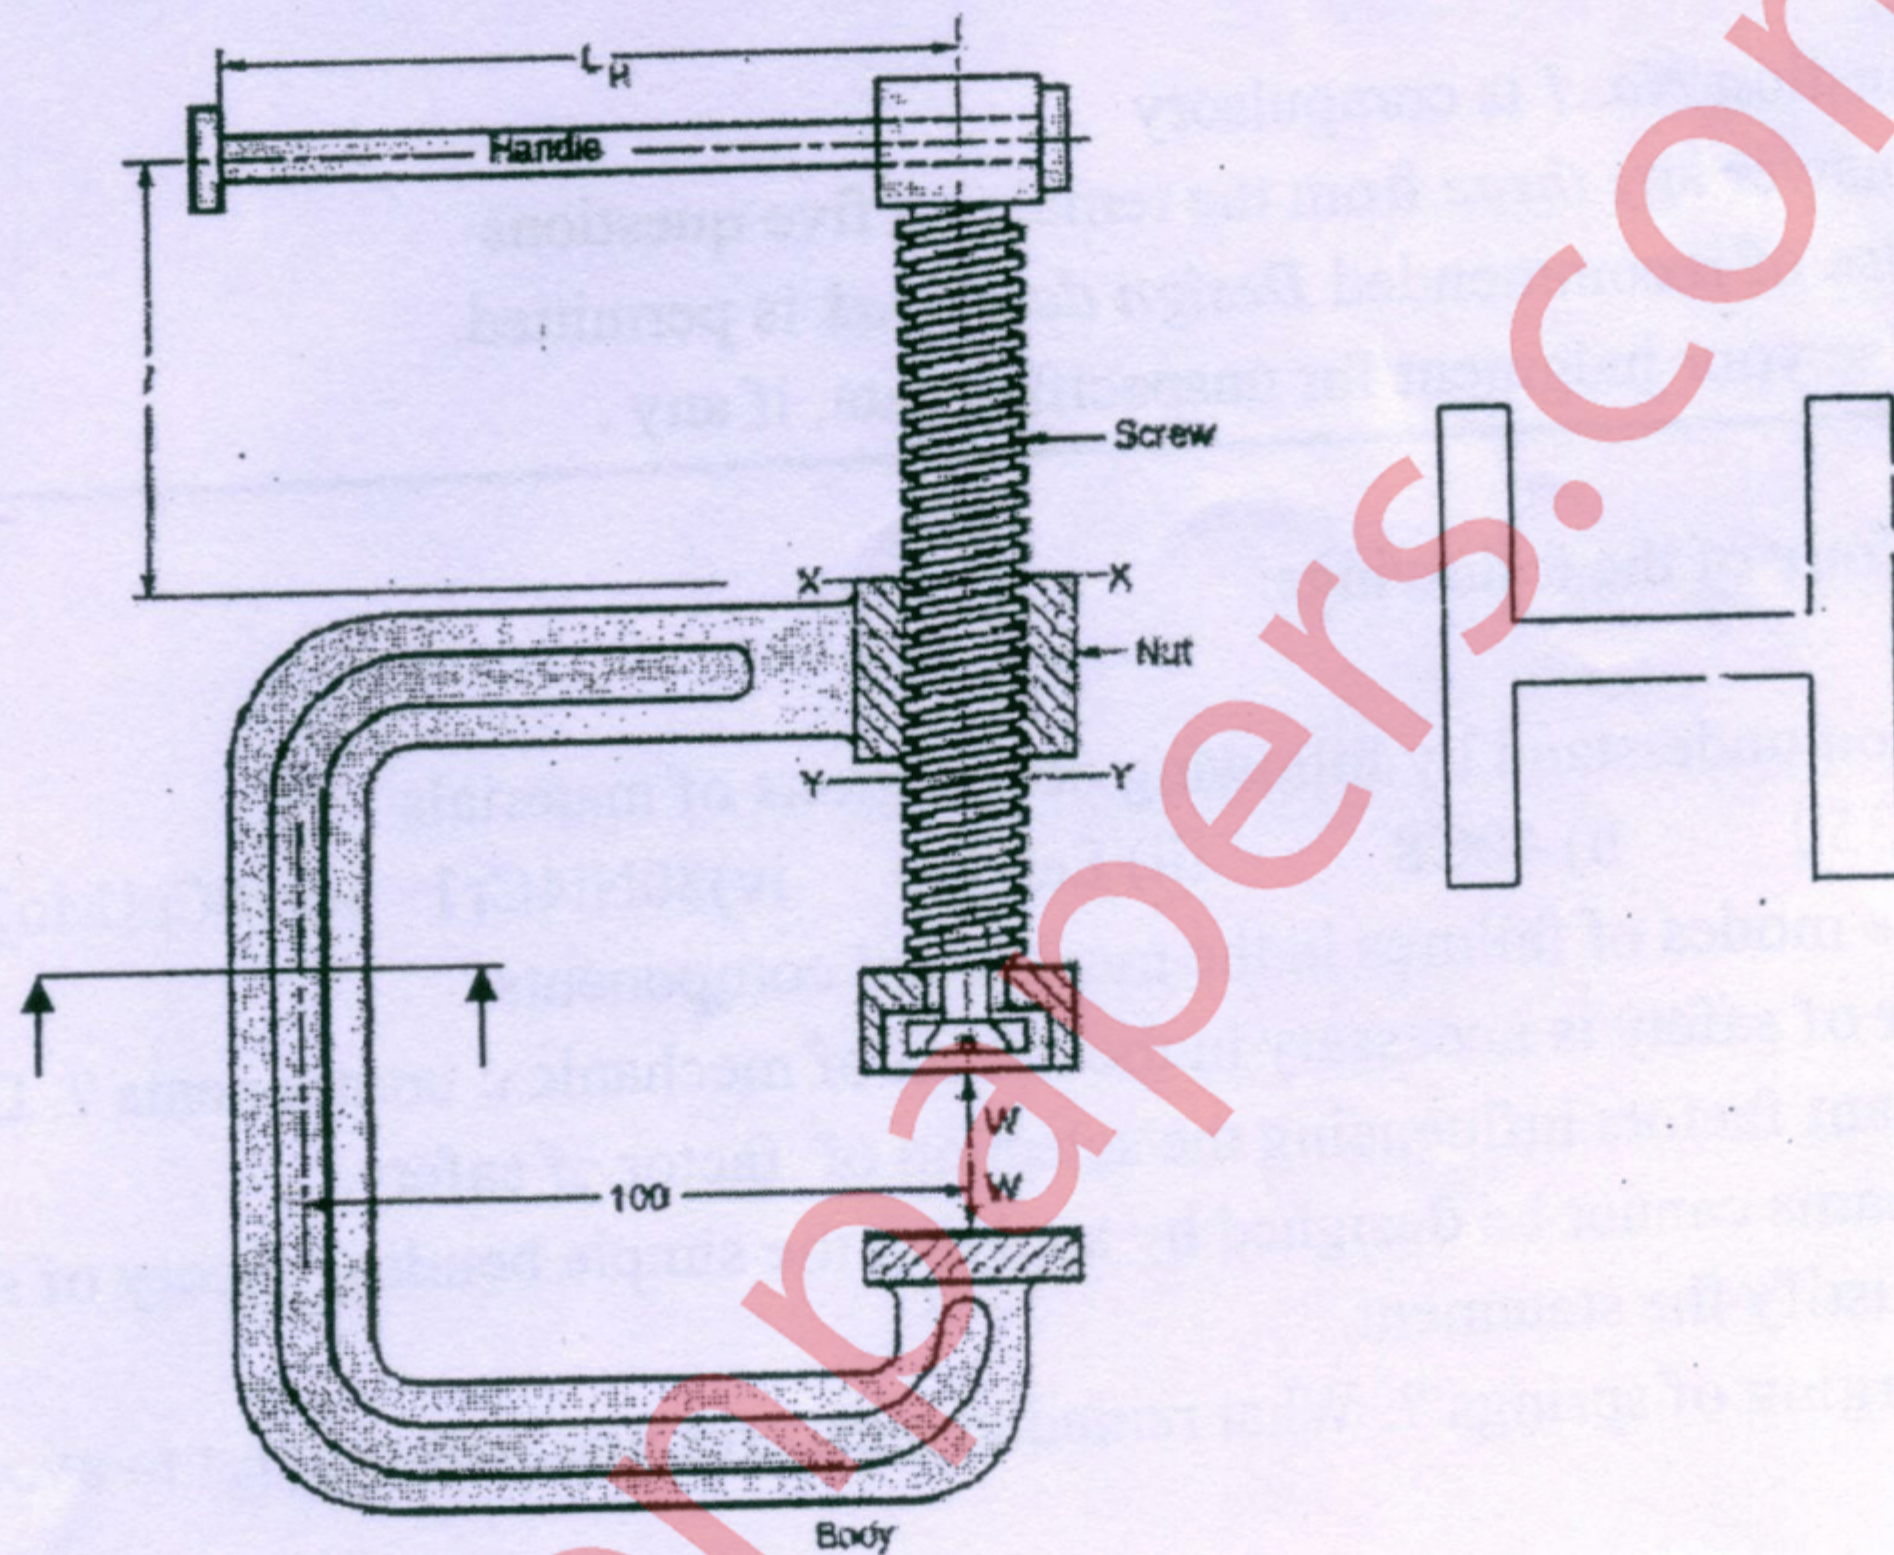

Figure 1 C-clamp
Q.No.2 a) Design a spigot-socket type cotter joint to transmit an axial load of 42 kN. Select appropriate materials for its components and draw its neat sketch showing major dimensions on it. (14)
Q.No. 3 a) State the assumptions made in the analysis of curved beams. (4)
- b) Design a single start square threaded screw for a C-clamp shown in figure 1. The maximum force exerted by the clamp is 5 kN. Use the following data: (16)
Also, design the I-section as shown by the side of figure 1, taking web = flange =  $4t$ , where  $t$  - thickness of flange and web of the I-section of the clamp body.